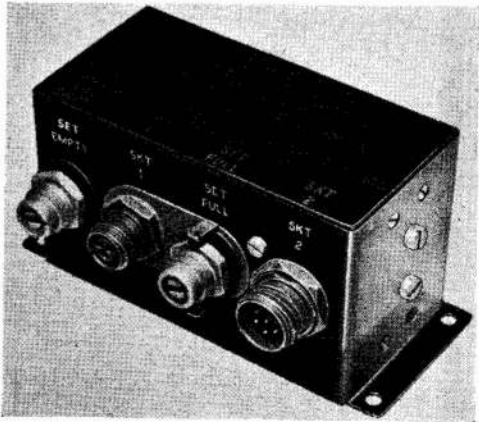

Fig. 1. Contents gauge control unit, Mk. 2
3. A six-pole plug and a three-pole socket are provided with the unit, the three-pole socket for connecting the unit to the oxygen container, the six-pole plug to connect the unit to the contents gauge. Referring to fig. 1 and 2, a control is incorporated to zero the bridge when the liquid oxygen container is empty, i.e., the control sets the contents gauge pointer to zero, whilst a second control adjusts the gauge pointer to full scale reading when the container is full. The second control is necessary to match the gain of the amplifier with the dielectric constant of the liquid oxygen measured.